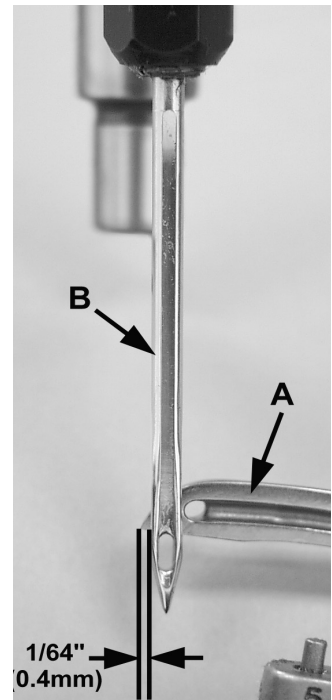
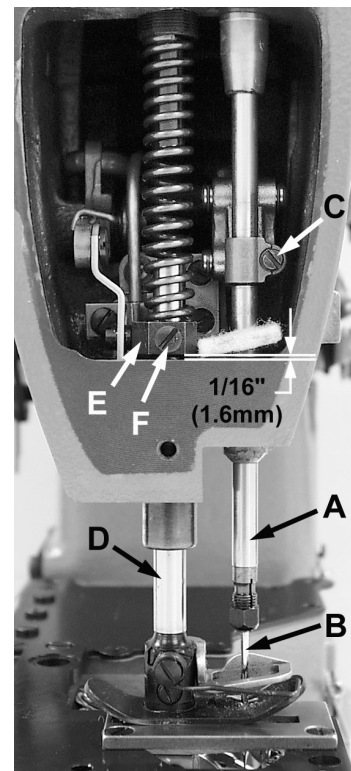

Fig 8
Fig 14
Turn handwheel to position point of looper (A, Fig. 8) 1/64" (0.4mm) past the left side of needle (B). At this time the top of the eye of the needle (B) should be even with the under side of the looper (A). To make adjustment, loosen screw (C Fig. 14) and move needle bar (A) up or down as required.
Height of presser bar (D, Fig. 14) is set correctly if it is possible to remove the presser foot when the foot lifter lever, located at the back of the machine and extending above the upper crank chamber cover is fully actuated (pulled to the right). There should be approximately 1/16 inch (1.6mm) clearance between lower surface of the presser bar connection and guide (E) and bottom surface of head opening in the bed when foot lifter lever is released and presser foot lying flat on the throat plate with feed dog below throat plate.
Regulate the presser spring regulating screw (A, Fig. 14) so that it exerts only enough pressure on the presser foot to feed the work uniformly when a slight tension is placed on the fabric. Turning it clockwise increases the pressure, counterclockwise acts the reverse.